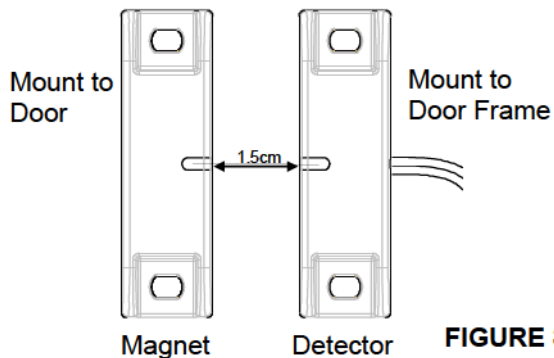

FIGURE 8
2. Ensure that the arrows on the Magnet and Detector are aligned. The gap between Magnet and Detector must be less than 15mm (FIGURE 8)